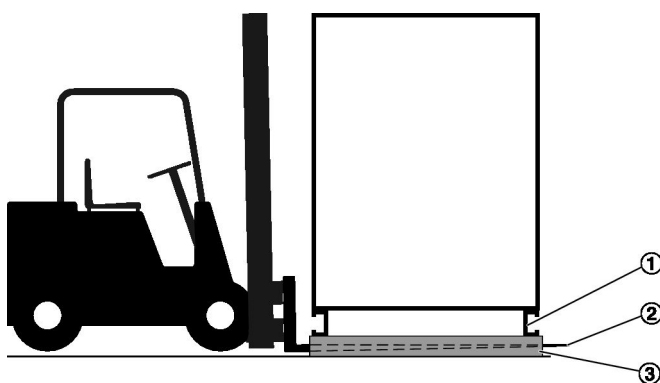

Fig. 5: Carrying load with a forklift
1. ▶ Drive the forklift forward until the forks (Fig. 5 /3) are fully between the square edge timber sections (Fig. 5 /2) and protrude from underneath the base frame (Fig. 5 /1) on the opposite side.